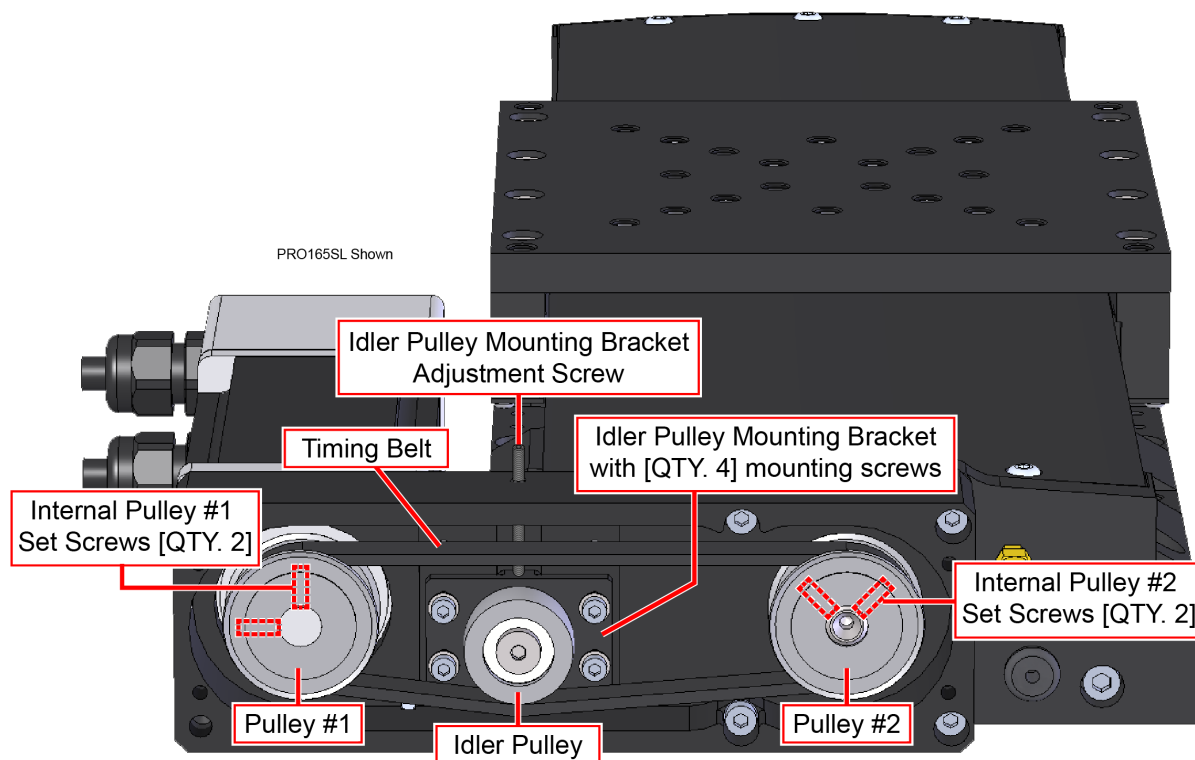

Figure 4-5: Foldback Motor Part Callouts
3. Check that the pulleys are tight on their respective shafts (Figure 4-5).
4. Check the tension in the belt to determine if adjustment is necessary (Figure 4-5).
5. If adjustment is required, loosen (but do not remove) the mounting screws for the idler pulley mounting bracket (Figure 4-5).
6. Remove the M4 set screw to gain access to the tapped hole above the idler pulley mounting bracket (Figure 4-5).
7. Insert an M4 screw or threaded stud long enough to contact the idler pulley mounting bracket (Figure 4-5).